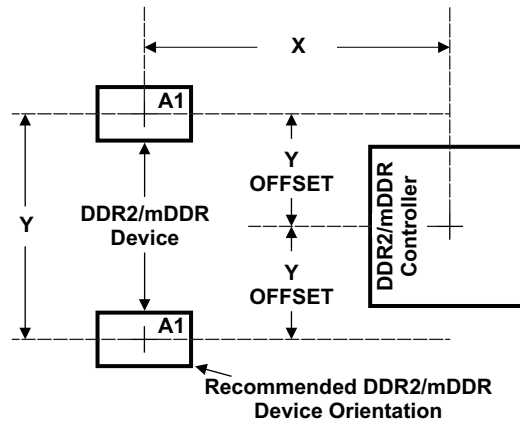

Figure 6-20. C6748 and DDR2/mDDR Device Placement
Figure 6-19 shows the required placement for the device as well as the DDR2/mDDR devices. The dimensions for Figure 6-20 are defined in Table 6-28. The placement does not restrict the side of the PCB that the devices are mounted on. The ultimate purpose of the placement is to limit the maximum trace lengths and allow for proper routing space. For single-memory DDR2/mDDR systems, the second DDR2/mDDR device is omitted from the placement.
- (1) See Figure 6-20 for dimension definitions.
- (2) Measurements from center of device to center of DDR2/mDDR device.
- (3) For single memory systems it is recommended that Y Offset be as small as possible.
- (4) Non-DDR2/mDDR signals allowed within DDR2/mDDR keepout region provided they are separated from DDR2/mDDR routing layers by a ground plane.
- (5) w = PCB trace width as defined in Table 6-27.